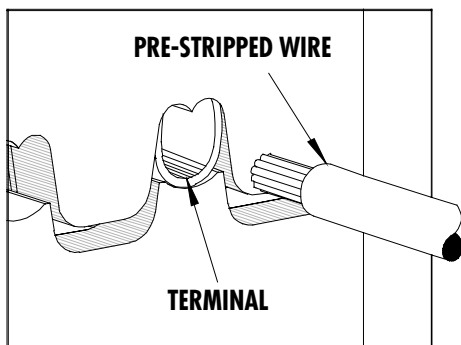

Figure 1
2. Partially close the tool until the terminal is held in place, (See Figure 1). If the insulation diameter is too large to do this, then place the insulation down into the terminal before closing the tool.